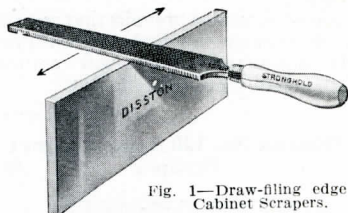

Fig. 1—Draw-filing edge of Cabinet Scrapers.
- 1—Place scraper in vise and draw-file all edges at right angles to face of scraper; see Fig. 1. This operation will give you a perfectly square but rough edge.